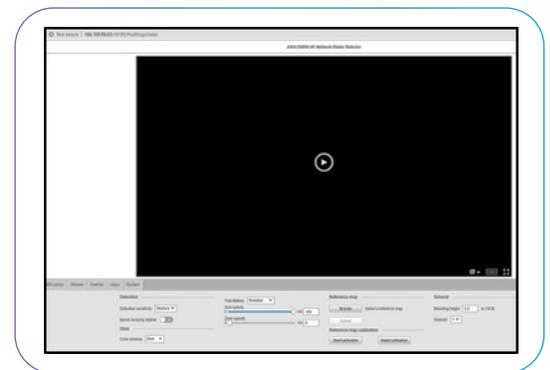

Figure 4. Main Page
- The Main page displays (**Figure 4**).